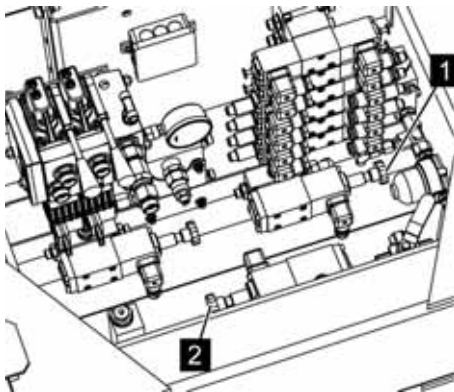

Fig. 117: Shuttle valves
4. ➤ For outrigger operation, lock the shuttle valves (Fig. 117/1 and 2).